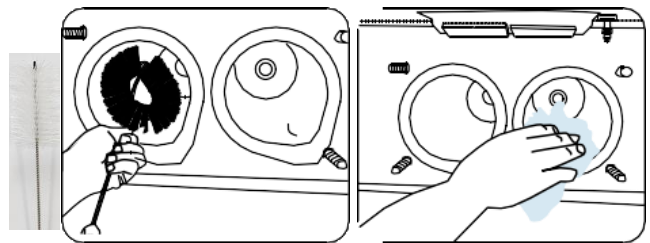

Figure 57
2. Brush out the inside of the freezing cylinder and wipe it with a soft cloth. (Figure 57)